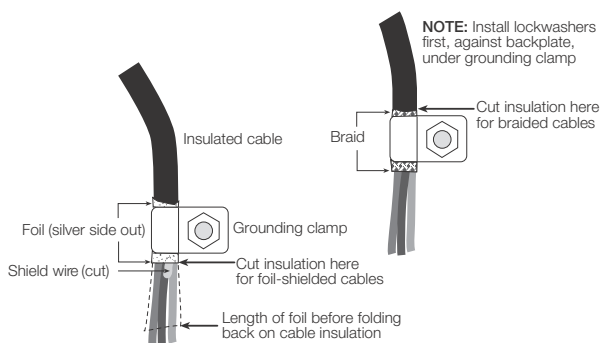

Figure 2-3. Grounding Clamp Attachment for Foil-Shielded and Braided Cabling
- For cables with foil shielding, strip insulation and foil from the cable half an inch (15 mm) past the grounding clamp (see Figure 2-3). Fold the foil shield back on the cable where the cable passes through the clamp. Ensure silver (conductive) side of foil is turned outward for contact with the grounding clamp.
- For cables with braided shielding, strip cable insulation and braided shield from a point just past the grounding clamp. Strip another half inch (15 mm) of insulation *only* to expose the braid where the cable passes through the clamp (see Figure 2-3 on page 6).